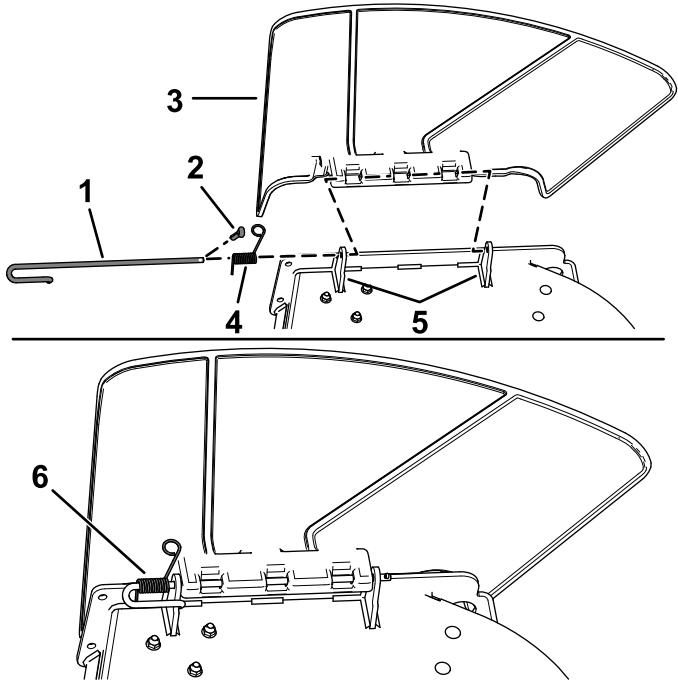

Рисунок 11
1. Remove the cotter pin (Рисунок 11). Retain the pin for use in Step 4 in 6 Installing the Bagger onto the Machine (страница 6).
2. Disengage the spring from the notch in the deflector bracket and slide the rod out of the welded deck brackets, spring, and discharge deflector (Рисунок 11).